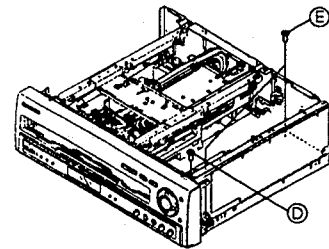

Fig. 9
2. Remove a screw (D) fastening the front side of PCB holder. (Fig. 9)
3. Remove the two screws (E) fastening the MOTHER assy. (Fig. 9)